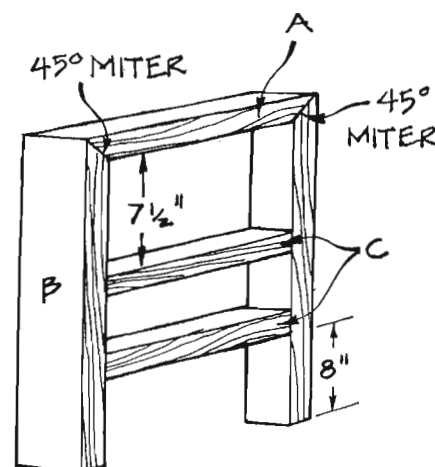

Figure 1
1. From the 2 x 4 treated lumber, cut one 21-inch-long armrest (A), two legs (B), each 25 inches long, and two side supports (C), each 18 inches long.
2. With the armrest (A) standing on edge, miter both ends at a 45-degree angle as shown in *Figure 1*.
3. In the same manner, miter one end of both legs (B) at a 45-degree angle.
4. Attach the armrest (A) to the two legs (B) and two side supports (C) to form the side assembly illustrated in *Figure 1*. Note that the lower side support (C) is positioned 8 inches from the bottom of the legs (B), and the upper side support is positioned 7-1/2 inches from the lower edge of the armrest (A). Screw the pieces together using two 3-1/2-inch-long screws to secure each joint.